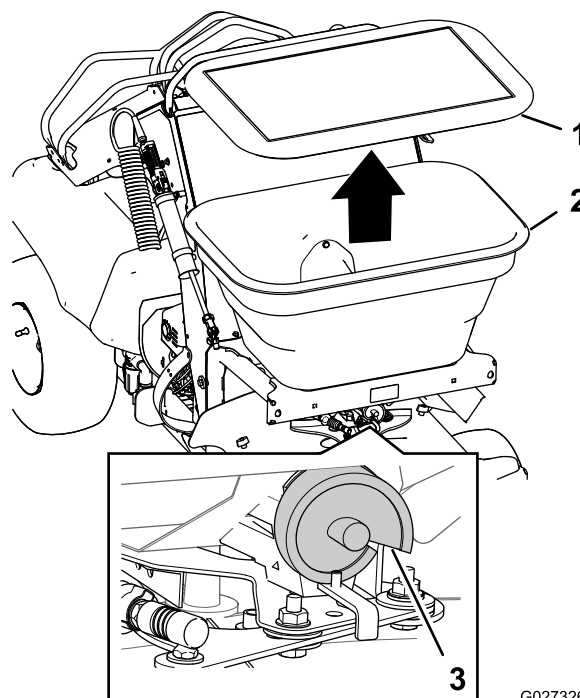

Figure 31
- Use the Spreading Charts \(page 32\) to determine the setting for the drop-rate cam (Figure 31).
- Remove the cover from the hopper, add the material that you are spreading, and install the cover onto the hopper (Figure 31).